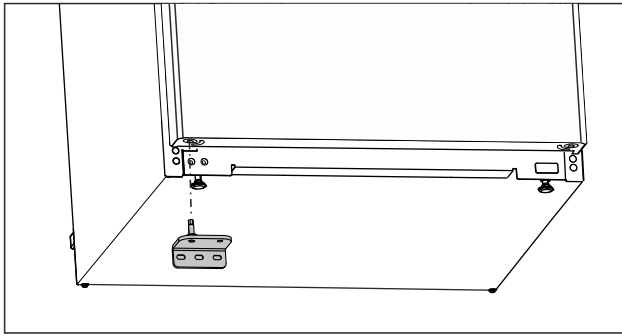

Fig. 23
- Insert the lower swap bearing block on the opposite side. (see Fig. 23)